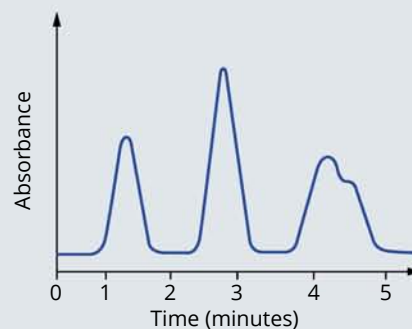

FIGURE 19.4.5 Chromatogram of a herbal tea extract.
- 20** A herbal tea extract was analysed by HPLC. The chromatogram obtained is shown in Figure 19.4.5.